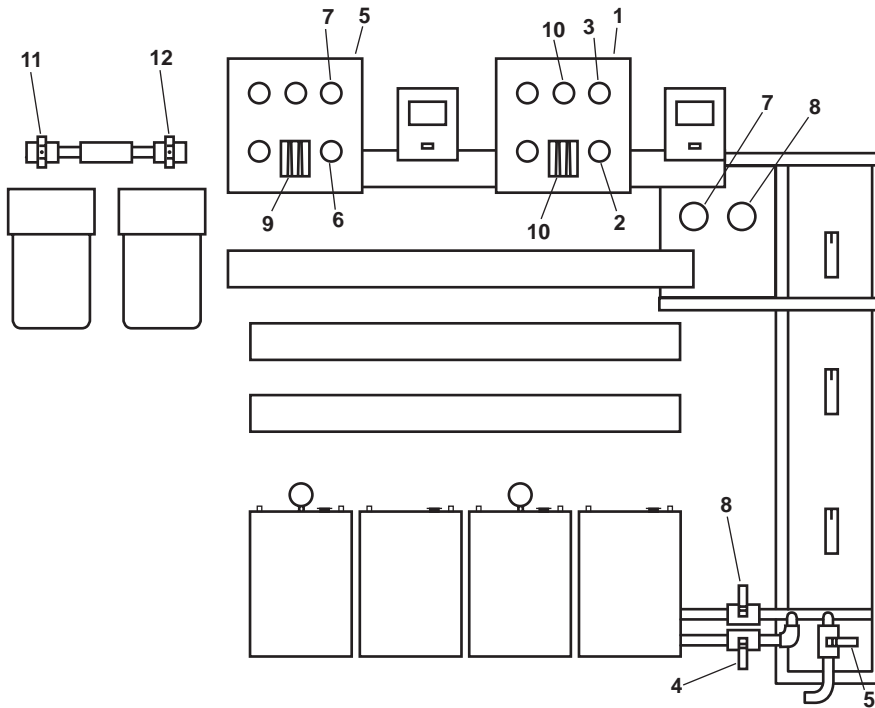

Figure 13. ROWPU System, Front View
1. At the ROWPU 1 flow control panel (figure 13, item 1):
- a. Slowly decrease system pressure by rotating the SYSTEM HIGH PRESSURE REGULATOR valve (figure 13, item 2) in the counterclockwise direction to the fully OPEN position.
- b. Observe that the SYSTEM OPERATION PRESSURE gauge (figure 13, item 3) reads less than 50 PSI (3.4 bar).
3. CLOSE RO-V-1-1 (figure 13, item 4), ROWPU 1 inlet sea water supply.
1. At the ROWPU 2 flow control panel (figure 13, item 5):
- a. Slowly decrease system pressure by rotating the SYSTEM HIGH PRESSURE REGULATOR valve (figure 13, item 6) in the counterclockwise direction to the fully OPEN position.
- b. Ensure that the SYSTEM OPERATION PRESSURE gauge (figure 13, item 7) reads less than 50 PSI (3.4 bar).
3. CLOSE RO-V-2-1 (figure 13, item 8), ROWPU 2 inlet sea water supply.
- a. RO-V-1-1 (figure 13, item 4), ROWPU 1 inlet sea water supply
- b. RO-V-2-1 (figure 13, item 8), ROWPU 2 inlet sea water supply
- b. RO-V-6 (figure 13, item 11), backflow preventer discharge
- c. RO-V-7 (figure 13, item 12), backflow preventer supply
5. At each flow control panel, verify that the BRINE flow meters (figure 13, items 9 and 10) read approximately 1 gallon (3.8 liters) per minute during the fresh water flush cycle.
4. Upon completion of the fresh water flush cycles, observe the following indications at the ROWPU 1 system controller (figure 13, item 1) and at the ROWPU 2 system controller (figure 13, item 5):